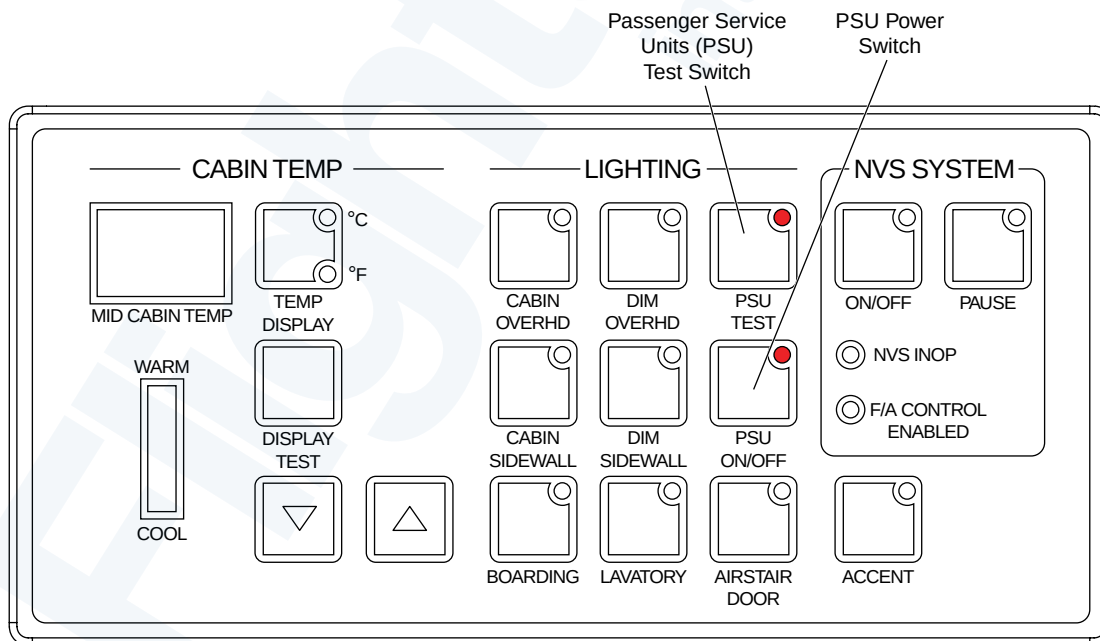

Figure 33-38. PSU Lights Switches
- Figure 33-38. PSU Lights Switches.